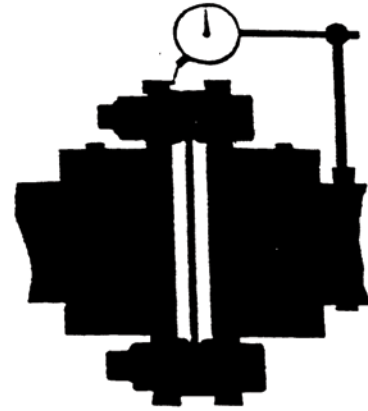

FIGURE 3
1. After preliminary alignment and complete assembly, secure a dial indicator to one hub as shown in Figure 3 and indicate the face of the other hub as shown. The method of mounting the indicator is optional.